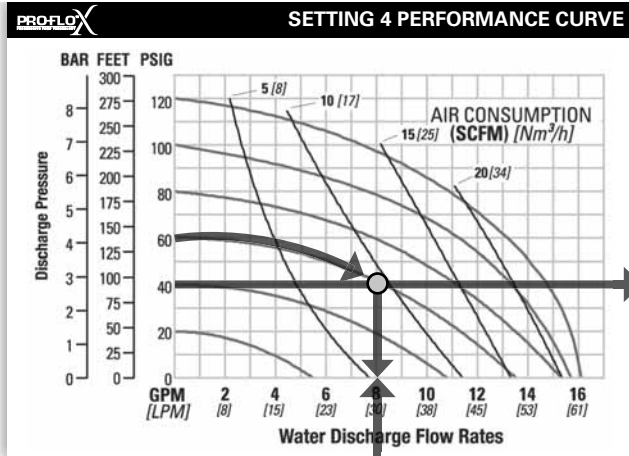

Figure 1
**FIGURE 1** The air valve directs pressurized air to the back side of diaphragm A. The compressed air is applied directly to the liquid column separated by elastomeric diaphragms. The diaphragm acts as a separation membrane between the compressed air and liquid, balancing the load and removing mechanical stress from the diaphragm. The compressed air moves the diaphragm away from the center of the pump. The opposite diaphragm is pulled in by the shaft connected to the pressurized diaphragm. Diaphragm B is on its suction stroke; air behind the diaphragm has been forced out to atmosphere through the exhaust port of the pump. The movement of diaphragm B toward the center of the pump creates a vacuum within chamber B. Atmospheric pressure forces fluid into the inlet manifold forcing the inlet valve ball off its seat. Liquid is free to move past the inlet valve ball and fill the liquid chamber (see shaded area).
**Step 1: Identifying performance at setting 4.** Locate the curve that represents the flow rate of the pump with 4.1 bar (60 psig) air inlet pressure. Mark the point where this curve crosses the horizontal line representing 2.8 bar (40 psig) discharge pressure. (Figure 1). After locating your performance point on the flow curve, draw a vertical line downward until reaching the bottom scale on the chart. Identify the flow rate (in this case, 8.2 gpm). Observe location of performance point relative to air consumption curves and approximate air consumption value (in this case, 9.8 scfm).